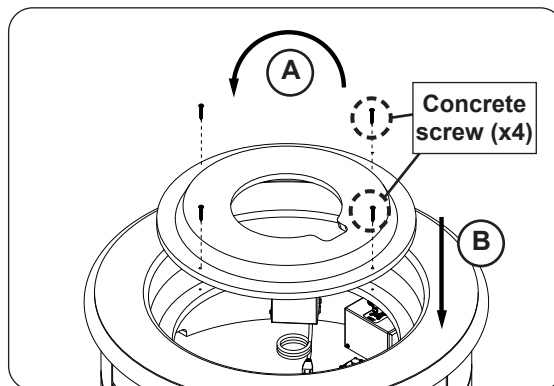

Fig. 28-3 Flip and install refractory panel
2. Flip the refractory panel and align the pilot holes. Re-install the 4 concrete screws (see Fig. 28-3).